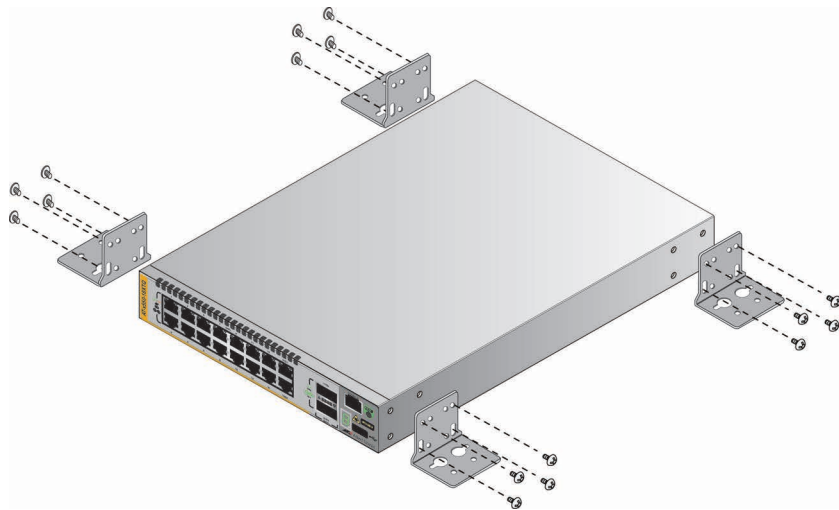

Figure 43. Installing the Wall Brackets
2. For the AT-x550-18XTQ or AT-x550-18XSQ Switch, install the four AT-BRKT-J24 wall brackets to the sides of the unit, with the sixteen M4x6mm screws included with the switch. Refer to Figure 43.
- Position it so that the front panel is either on the left or right. Refer to Figure 43. Do not install it with the front panel facing up or down.
2. For the AT-x550-18XTQ or AT-x550-18XSQ Switch, install the four AT-BRKT-J24 wall brackets to the sides of the unit, with the sixteen M4x6mm screws included with the switch. Refer to Figure 43 on page 82.